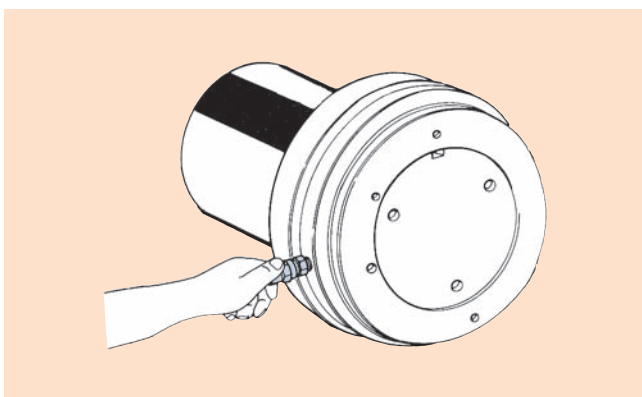

Fig. 31
- (3) Connect the hose from the hydraulic pump to the hydraulic nut using a hydraulic coupling (see Fig. 31).